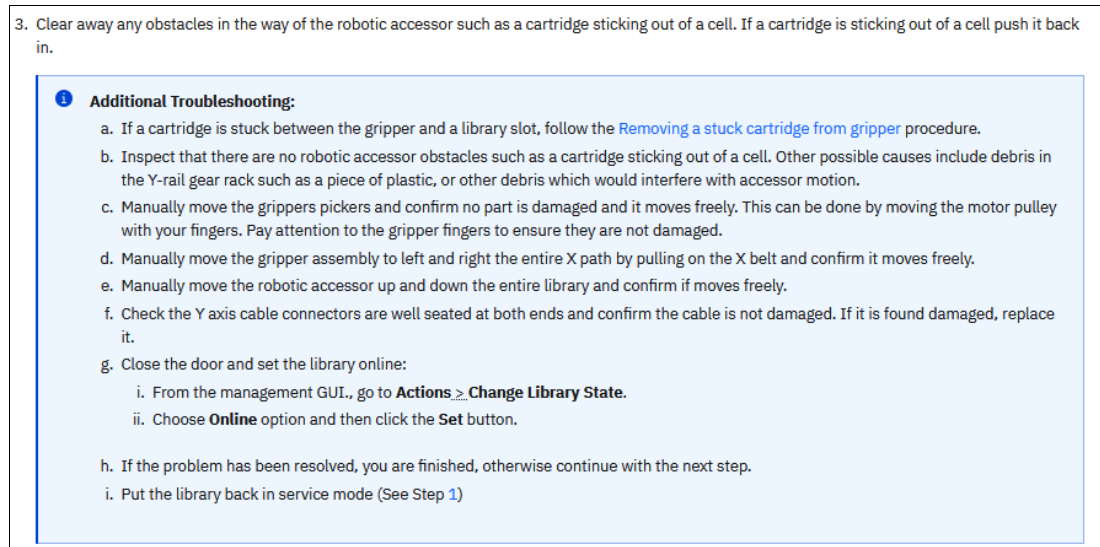

Figure 7-9 Additional troubleshooting steps
Step 3 also includes an Additional Troubleshooting section in blue (Figure 7-9). This section contains more detailed and advanced steps that require manual manipulation of the robotic accessor, grippers, or cables. If the administrator is not comfortable with the steps listed, contact IBM and request assistance from IBM support for assistance resolving the problem.